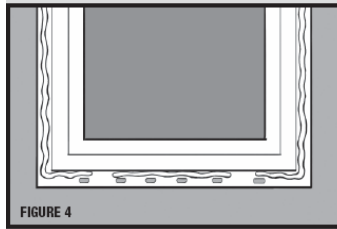

Figure 4
- 3.2.1 Apply a continuous bead of TeQ::Seal™ Window Flange Sealant to the interior side of the nailing fin, on jambs and head flanges and an intermittent bead on the sill flange (Figure 4).